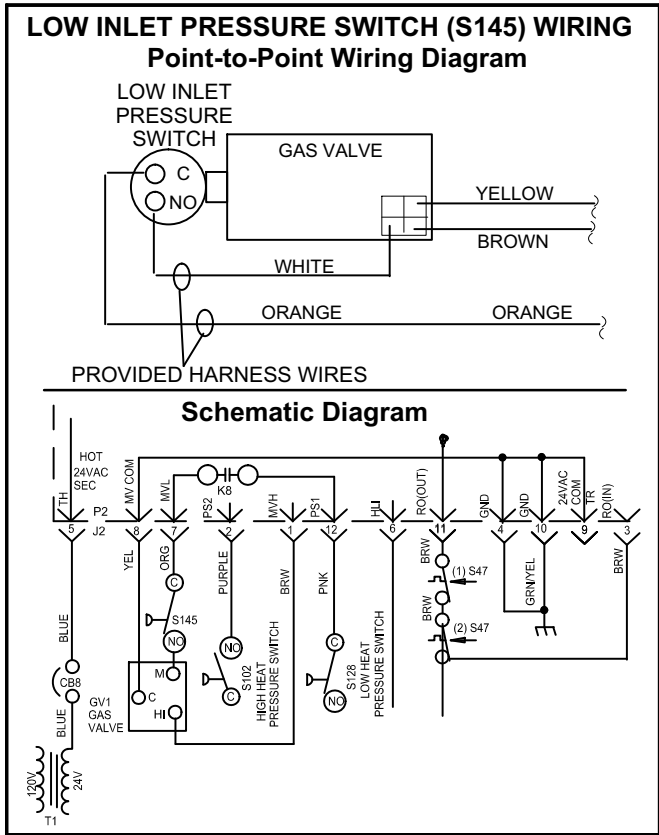
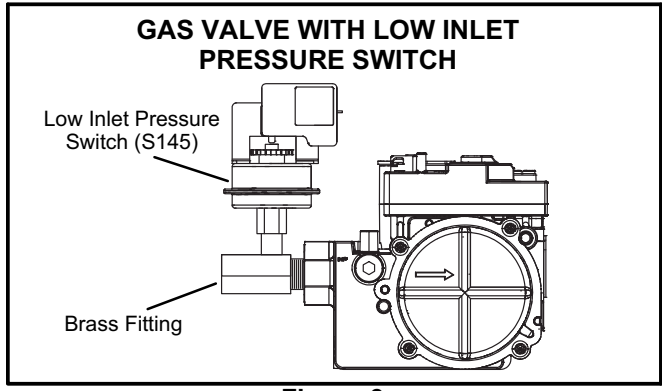

Figure 2
Figure 3
- 8 - Reinstall the manifold/valve assembly and the burner box cover. Attach provided brass fitting to gas valve inlet. Install the low inlet pressure switch (S145) to the brass fitting. See figure 3. Wire as shown in figure 2